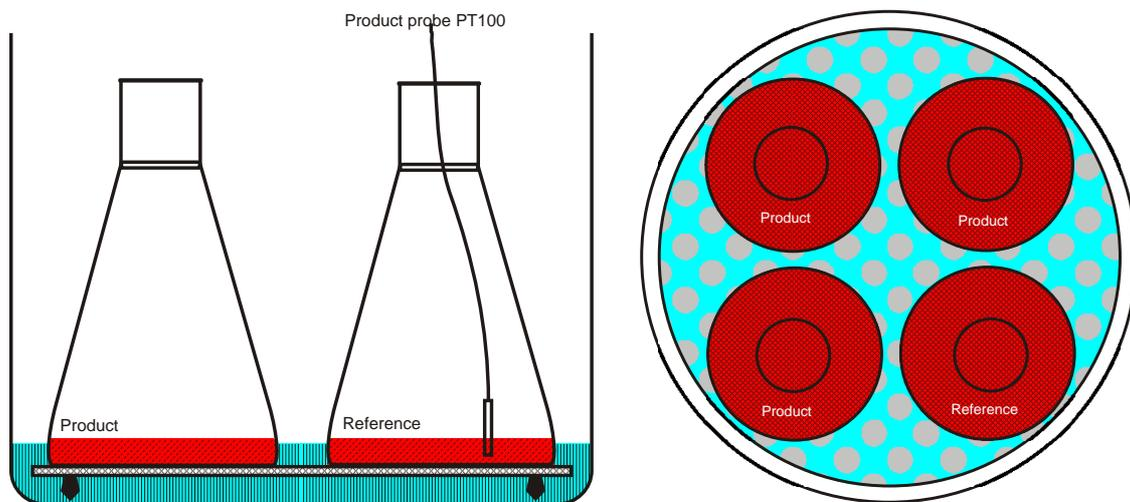

Figure 3.2: Positioning of containers in the vessel - example
The MediaClave is switched on and off with the green power switch located on the right-hand side panel of the instrument. After switching on the instrument, it is automatically initialised and a self-test is performed. On successful completion of initialisation and the self-test, the safety cover automatically opens and the start screen appears (see figure 3.2).
The MediaClave is controlled and operated with one basic GUI (Graphical User Interface). This GUI is illustrated in figure 3.2. It consists of a graphic display and four soft keys below the display. There are six menu options available on the MediaClave start display:
1. Press **LANGUAGE** on the start display (see figure 3.2 and figure 3.3)